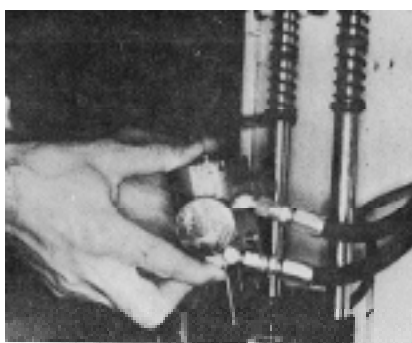

Fig. 6-1-111, F60213. Check leakage at inlet port
- b. Hold injector plunger down against its seat in injector cup with injector in a vertical position. Assembly may be held in hand, do not place in test stand holding device. Fig. 6-1-111.